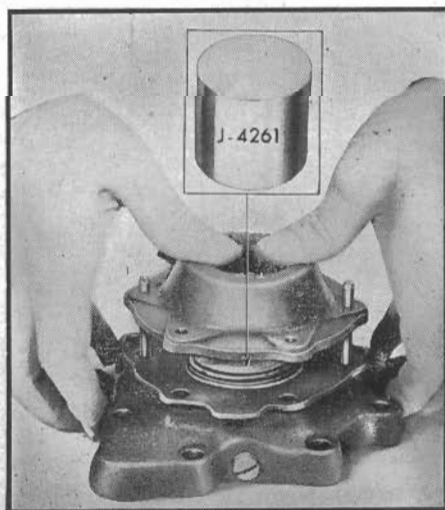

Fig. 32 Installing modulator cover. 1950-52
- Install two 10-24 x 3" guide pins and install modulator cover, Fig. 32. Install attaching screws and tighten securely.